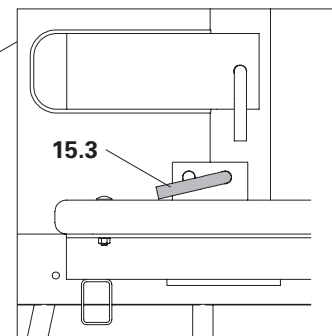

Fig. A6.02a
2. Set the Finishing Platform FBN-2 at the desired height with the securing bolt (4.3). (Fig. A6.02a)